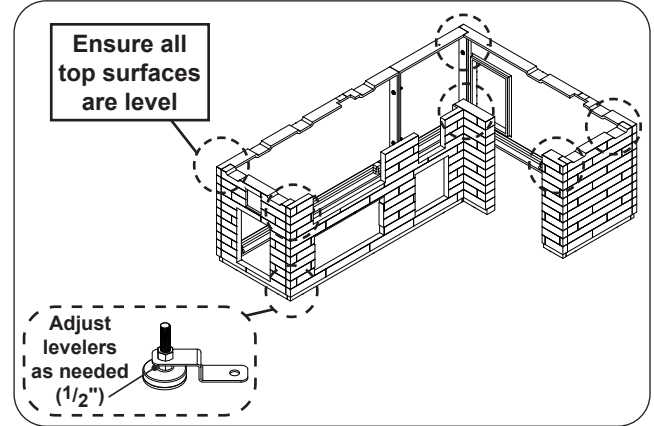

Fig. 14-1 Level assembly
1. Use the level to ensure the top surfaces of the assembly are level. The levelers at the bottom of the island may be adjusted as needed with a $\frac{1}{2}$ " open end wrench. See Fig. 14-1.